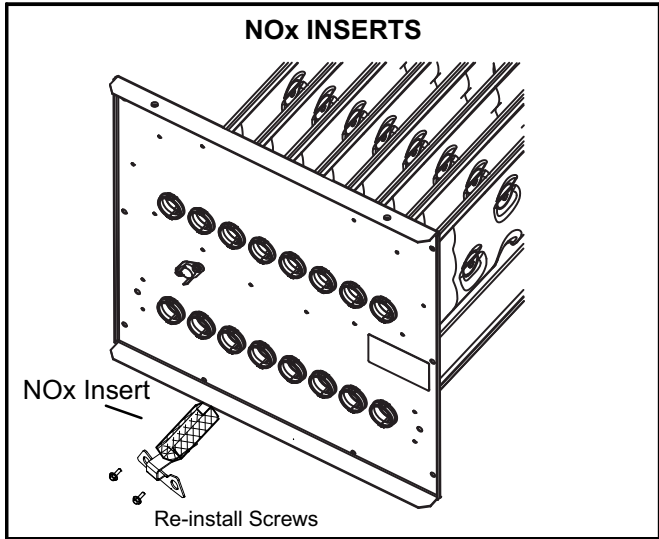

Figure 1
- 4 - Remove the screw that secures the burner box front cover and remove front cover. See figure 1 or 5.
- 5 - Remove the four manifold securing screws. Remove the manifold/gas valve assembly. Replace the main burner orifices with the provided orifices. Torque to approximately 35 in-lbs. See figure 1 or 5.
7 - EL280(X) and SL280(X) NO_x units being converted from natural to LP /Propane. See figure 1.